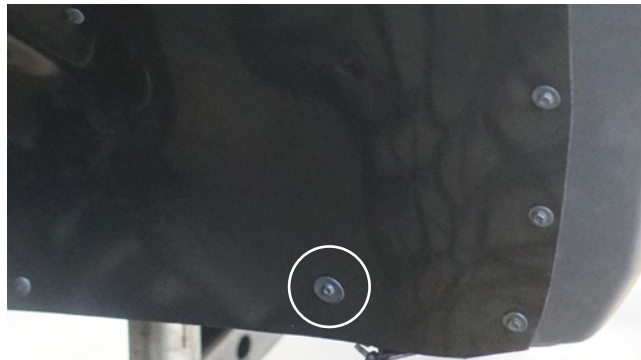

Figure 36 Driver-side shown
- D. Make sure the liner fits uniformly around the entire length of the flare. Transfer hole locations to cab closeout plate then drill to 13/32" and install nutserts (fig. 36).